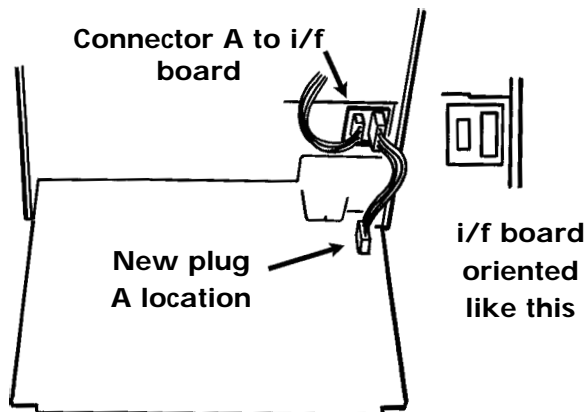

Figure 7a Reconnecting connector A
- Take the small square circuit board (interface board) supplied, and remove the protective backing from the double-sided sticky-pad on the reverse side of the board. Stick the board to the recorder bulkhead as shown in figures 7a and 7b.
- Remake connectors A using the interface (i/f) board as shown in figures 7a/b.